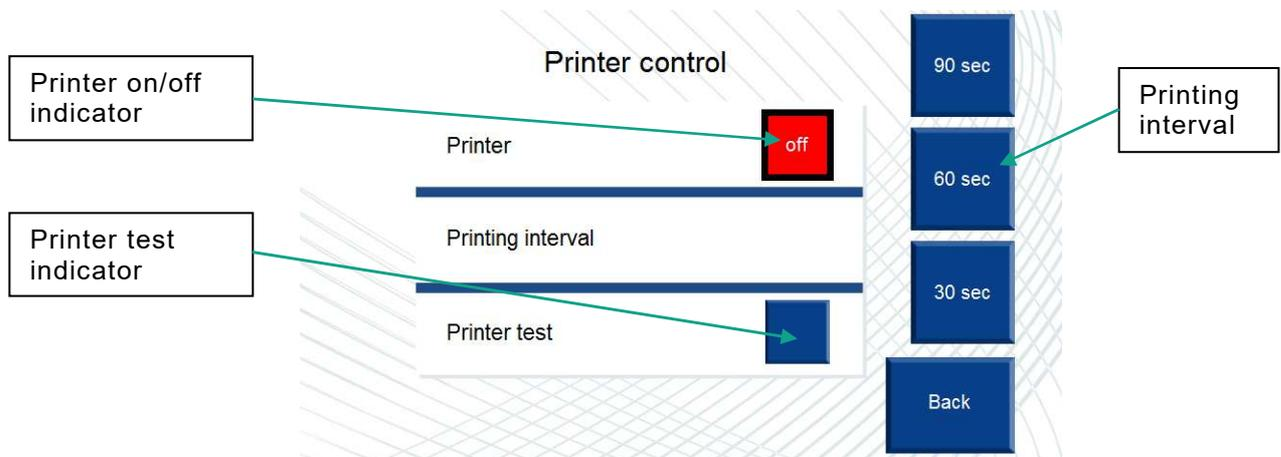

Fig. 37
**Printer settings** – pressing this button moves to the printer settings screen (Fig. 37).